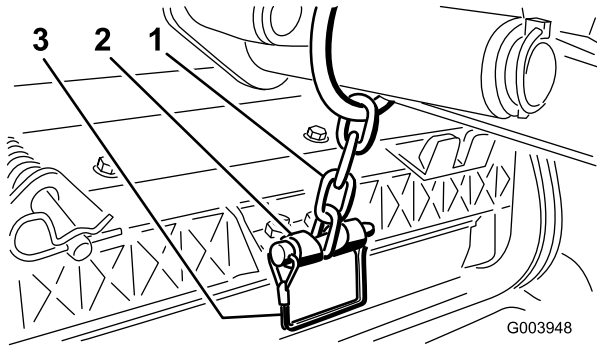

Figure 19
13. Secure the lift arm chain to the chain bracket with the snapper pin (Figure 19). Use the number of chain links described in the cutting unit *Operator's Manual*.